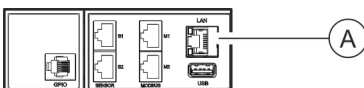

Fig. 24: LAN port
1. ➔ Insert the connector of the data cable into the LAN port on the Master PDU (Fig. 24/Ⓐ).